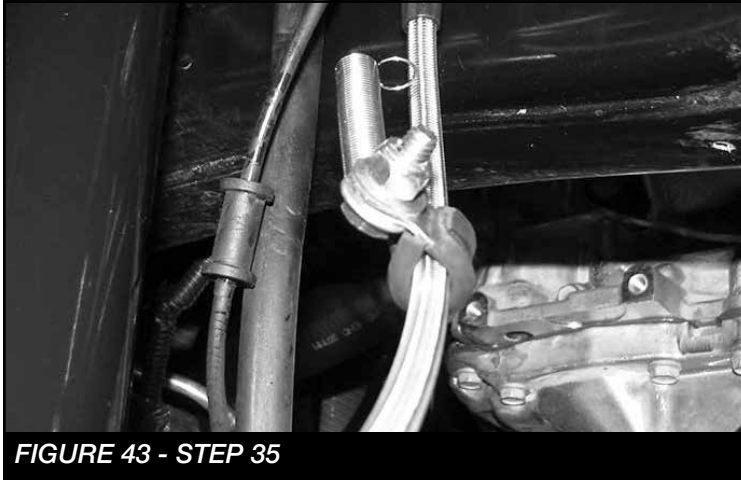

FIGURE 43 - STEP 35
35. Locate the supplied cushioned clamps, 1/4" X 1" bolts, washers, nuts, TEK screws and springs. Install the clamp around the brake using the 1/4" hardware. **NOTE: Install the eyelet of the spring between the clamp and washer. SEE FIGURE 43**